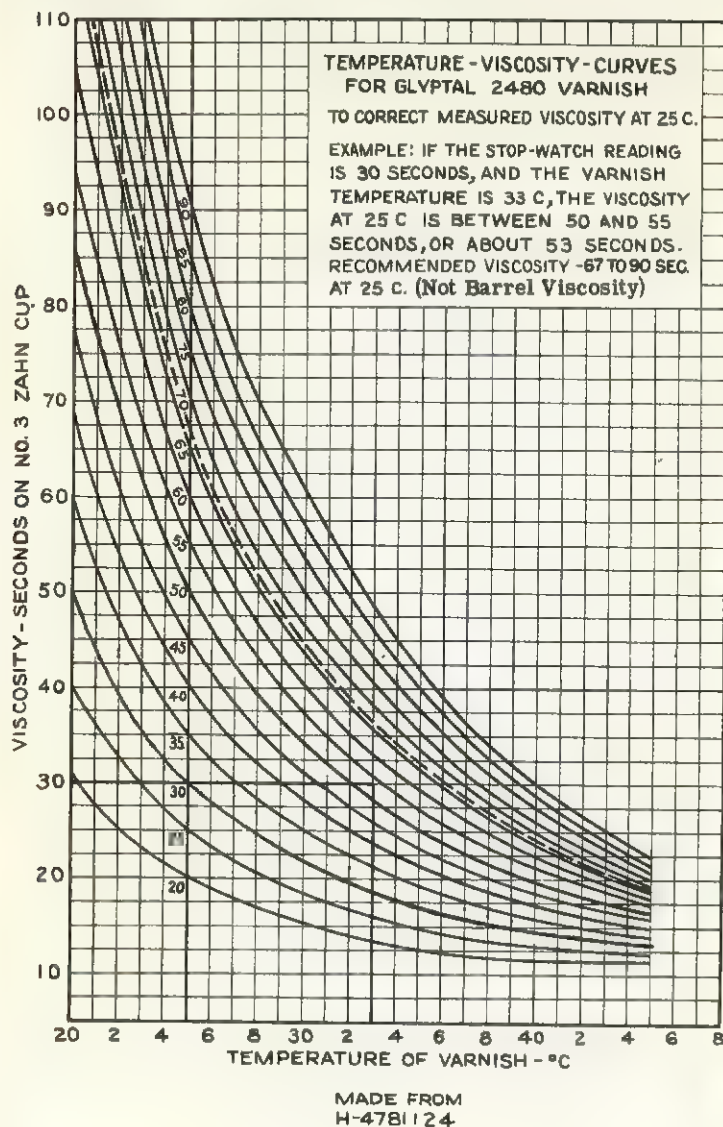
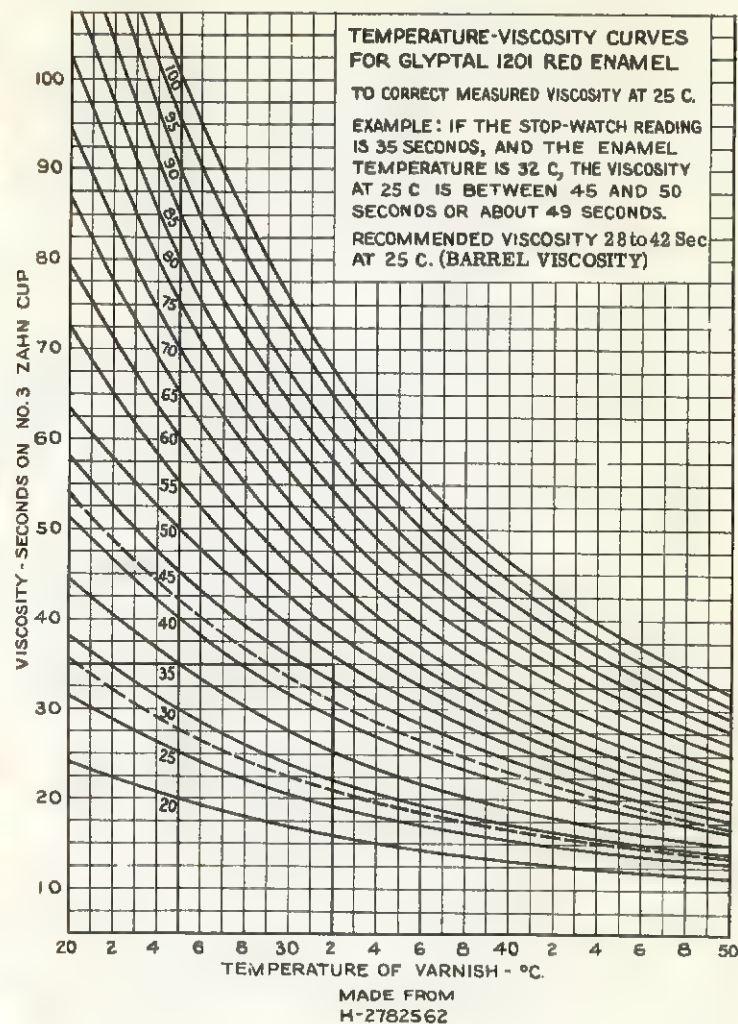

Fig. 1-8
Fig. 2-8
4. Curve sheets for correcting viscosity to 77 F or 25 C. Glyptal No. 2480 varnish - use curve H-4781124 (See Fig. 1-8). Glyptal No. 1201 enamel - use curve H-2782562 (See Fig. 2-8).
5. Correct viscosity as measured to viscosity at 25 C by using curve Fig. 1-8 for Glyptal No. 2480 varnish and curve Fig. 2-8 for Glyptal No. 1201 red enamel.